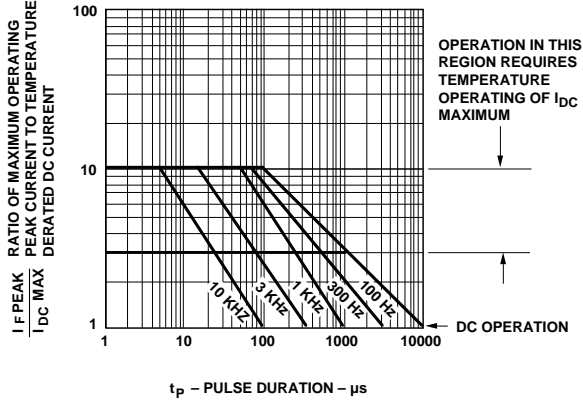

Figure 5. Maximum Tolerable Peak Current vs. Pulse Duration – HER, Orange.
- See Figure 5 to establish pulsed conditions.